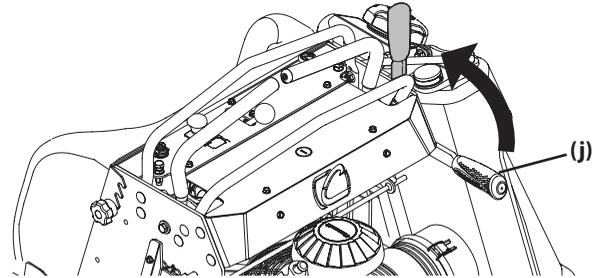

Figure 3
12. To engage the parking brake, pull back completely on the parking brake lever (j) (Figure 3).